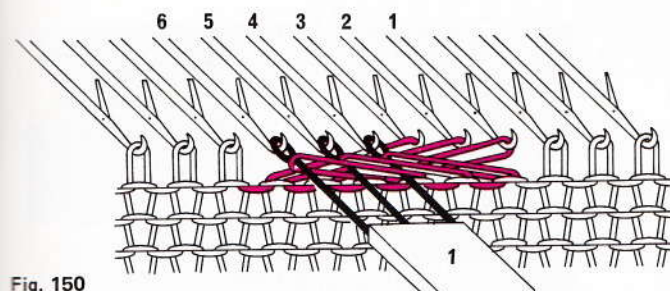

Fig. 150
- Unhook the first transfer tool and transfer the stitches onto needles 4–5–6 (fig. 150). Line up the cable needles and push them forward so that the stitches lay just behind the latches.